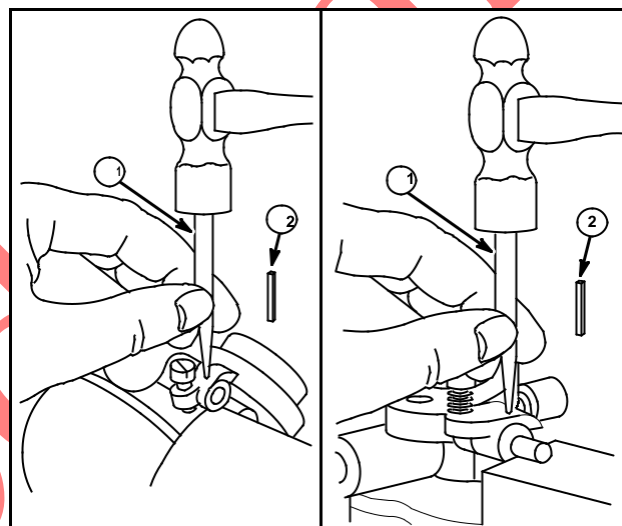

Fig. 137
To remove throttle shaft, use a thin punch (1) to drive out pin (2) holding throttle stop to shaft, remove throttle plate, then pull out shaft, Fig. 137.